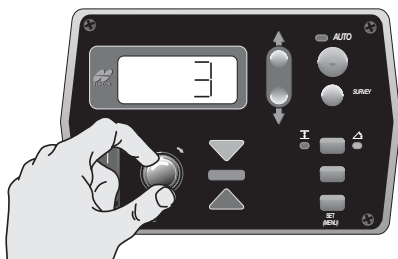

Figure 30. Select Value
2. Turn the Grade Adjustment Knob to select the desired value, typically 3mm (0.01') (Figure 30).